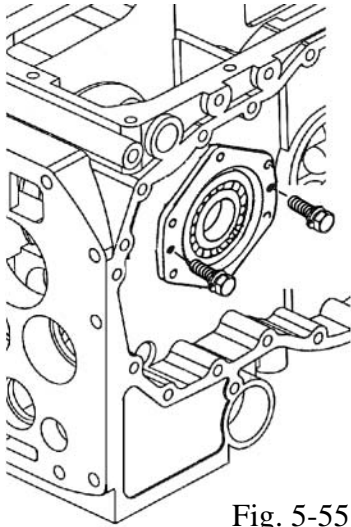

Fig. 5-55
a. Dismount diff-case (RH) and diff-case metal(LH) by installing push bolt as shown in Fig.5-55